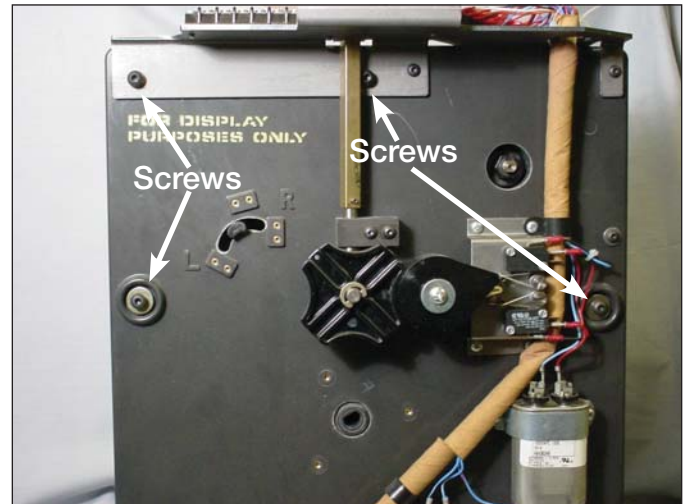

Figure 14.
7. Using a 5/32 Allen wrench, loosen and remove the pan head Allen screws fastening the front drive assembly section and the contact panel assembly section together. See Figure 14.